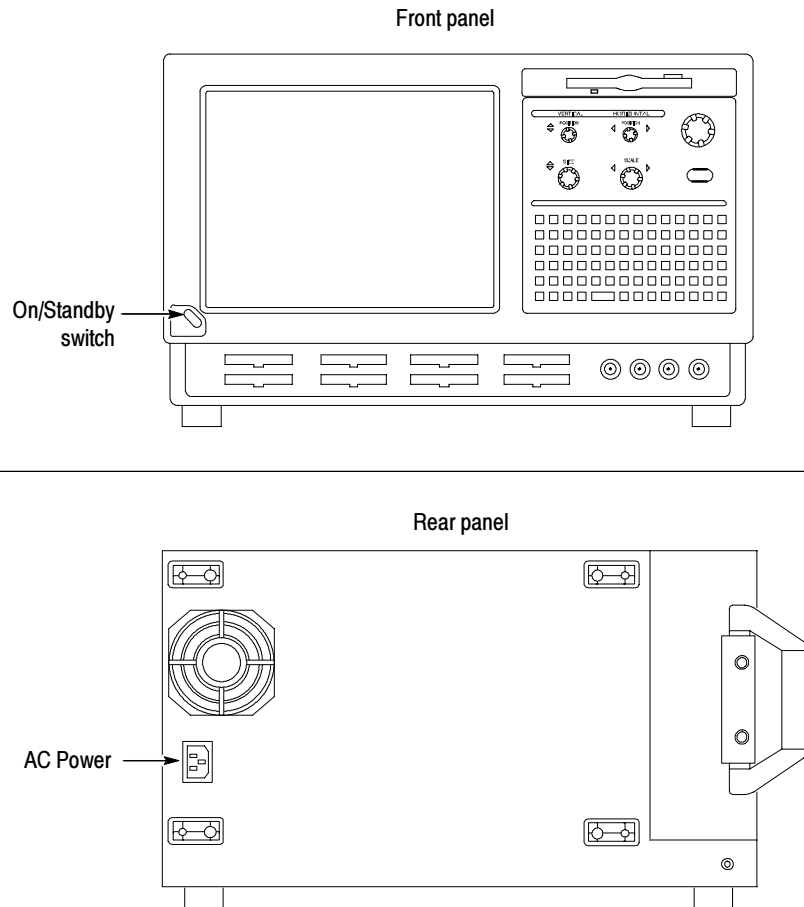

Figure 4: TLA5000 power cord connector location
1. Connect the power cord. See Figure 4.
- a. Press the On/Standby switch on the front of the instrument to turn on the logic analyzer (see Figure 4 for the switch location).